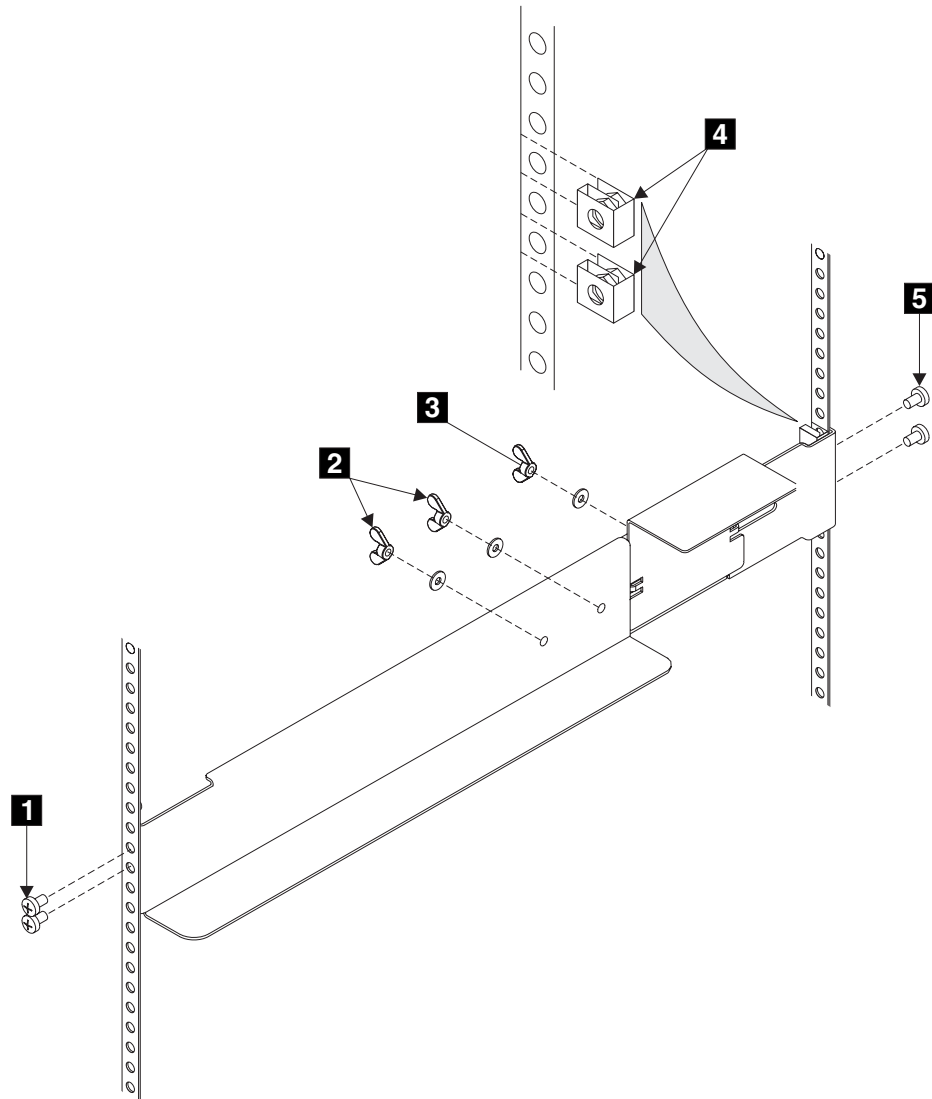

Figure 251. Removing support rails for a 2145 UPS from the rack
2. Loosen the two adjustment wing nuts **2** (Figure 251 on page 523).